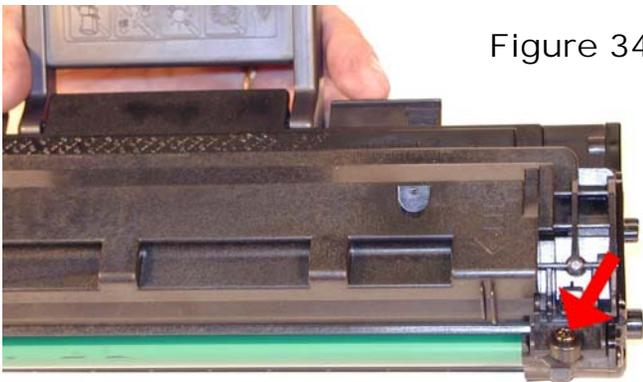

Figure 34
31) If your cartridge has a fuse, it needs to be replaced. Replace the fuse located on the right front of the cartridge (with the handle away from you). The ML-2010 does not use a fuse, and no other machines/cartridges are available yet (9/2005), but the slot for a fuse is there so it is possible that some of these cartridges will use one. See **Figure 34**